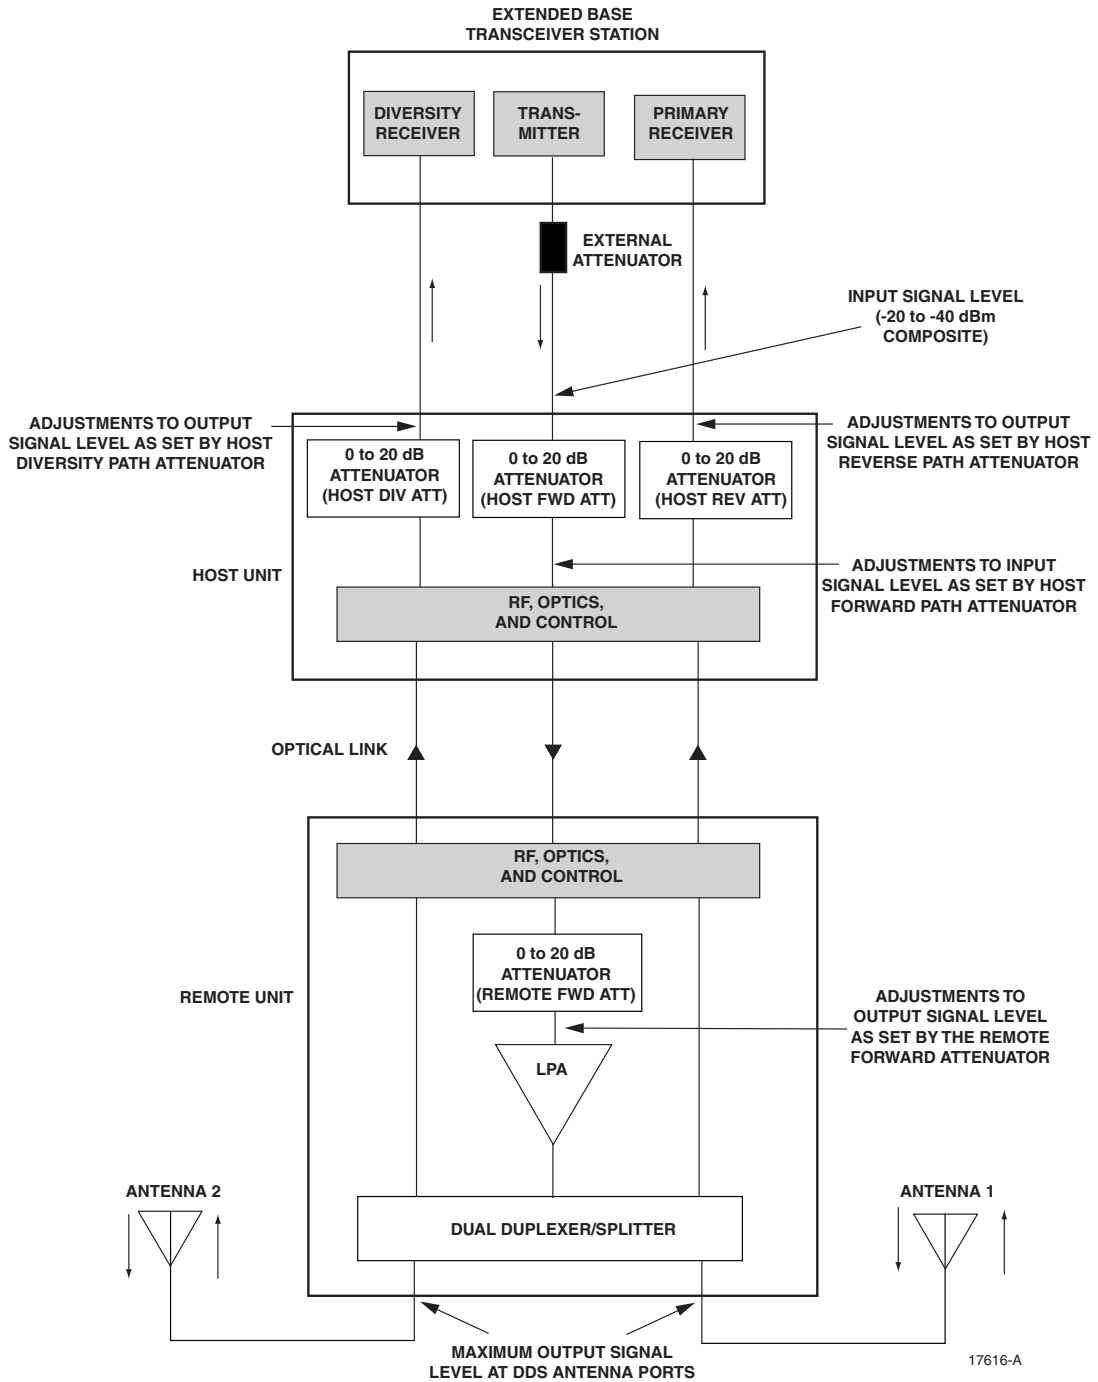

Figure 4-5. Signal Levels, Test Points, and Adjustments
1. Connect a spectrum analyzer or power meter to the forward path output port at the EBTS. The required signal levels and test points are shown in Figure 4-5.